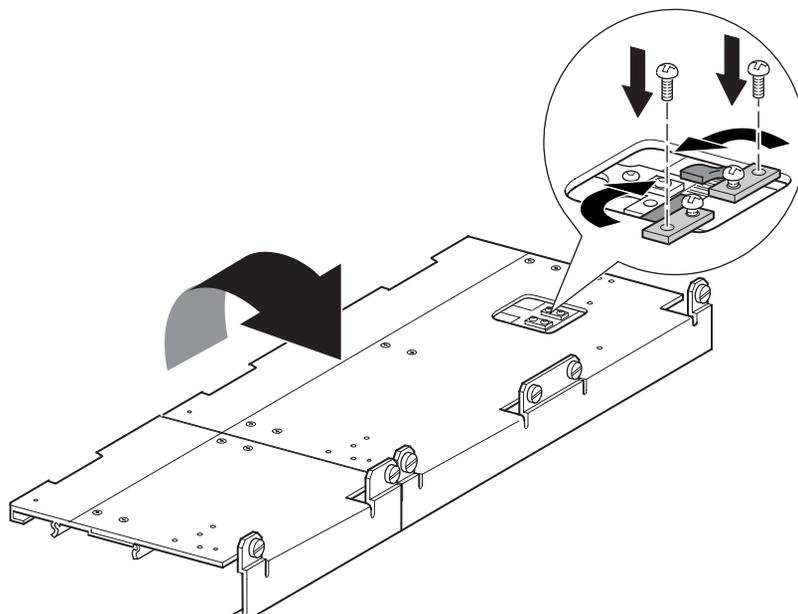

Figure 22: Timing belt at the belt block
7. Place the timing belt ends on the belt block (see Figure 22).